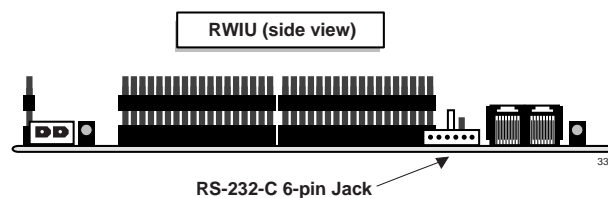

Figure 16-28 RWIU 6-pin Jack
- Run the RS-232-C cable to the back of the PC (COM port 1) and insert the 6-pin connector into the RWIU jack (see Figure 16-28).